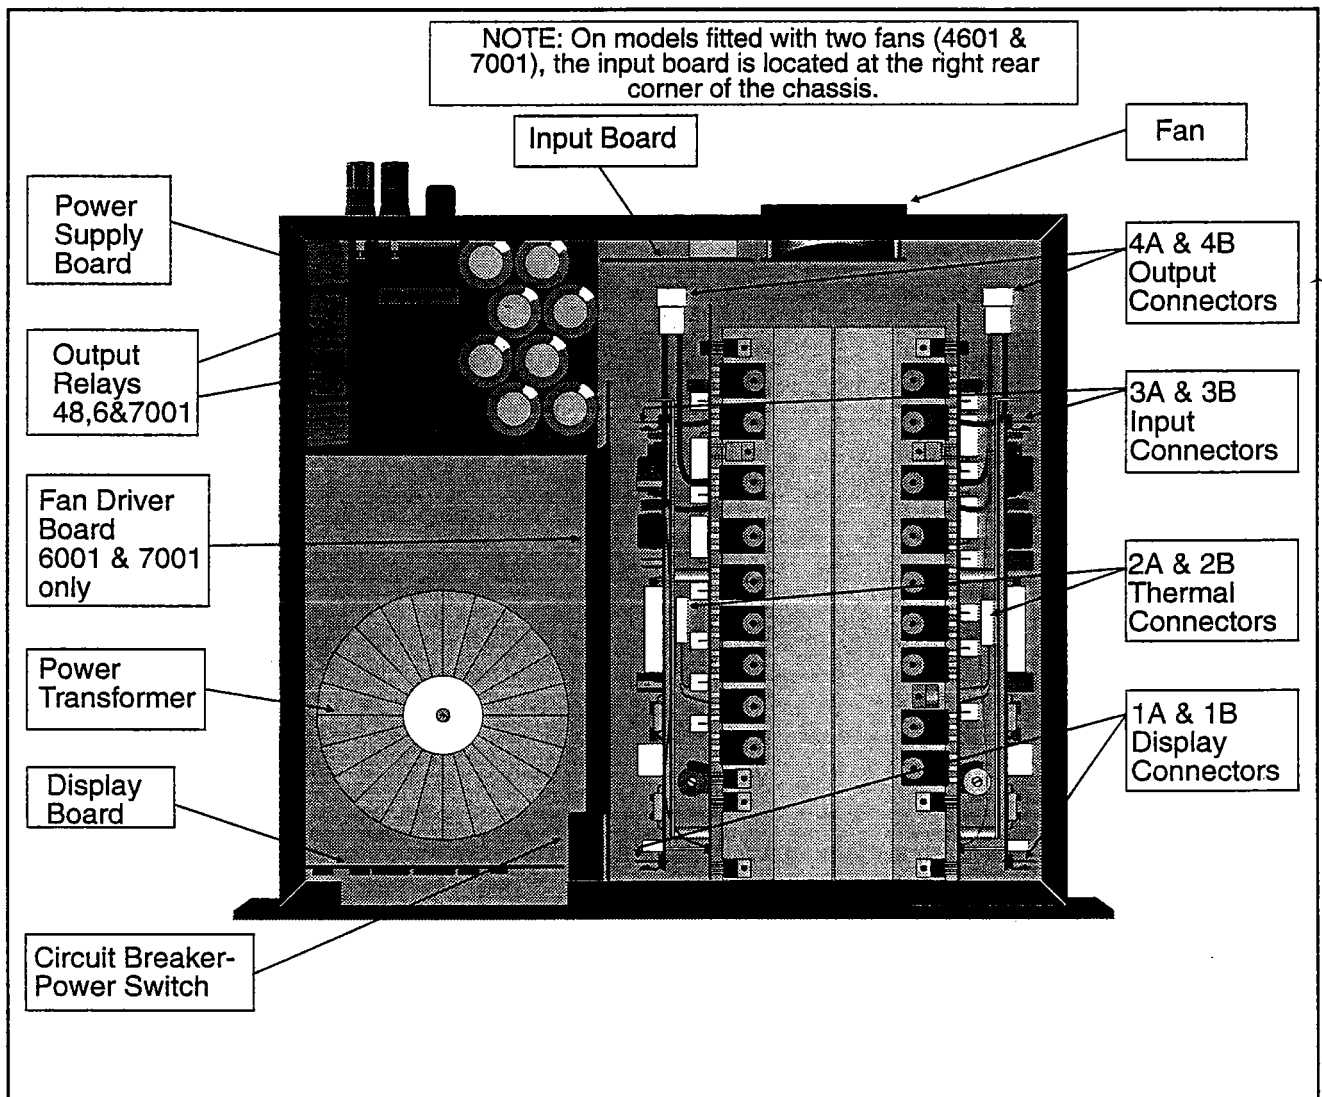

Figure 4-1. Amplifier, view with top off
b. Locate the output connectors (4A & 4B in Figure 4-1).
- 5 Disconnect all wiring to the modules: (See Fig. 4-1)
- 1 Disassemble the "good" module: remove the two screws which secure the preamp board to the heatsink board and separate the preamp board from the rest of the module. Place the "good" module (minus the preamp board), heatsink down, on the bench at a minimum of 6 inches to the right of the chassis, with its 17-pin header (Figure 4-1, 1A & 1B) closest to you. **NOTE: When reassembling the Output Modules, be sure that the fish-paper insulator sits between the Preamp board and the metal shield, with the washers in place, before securing the screws!**